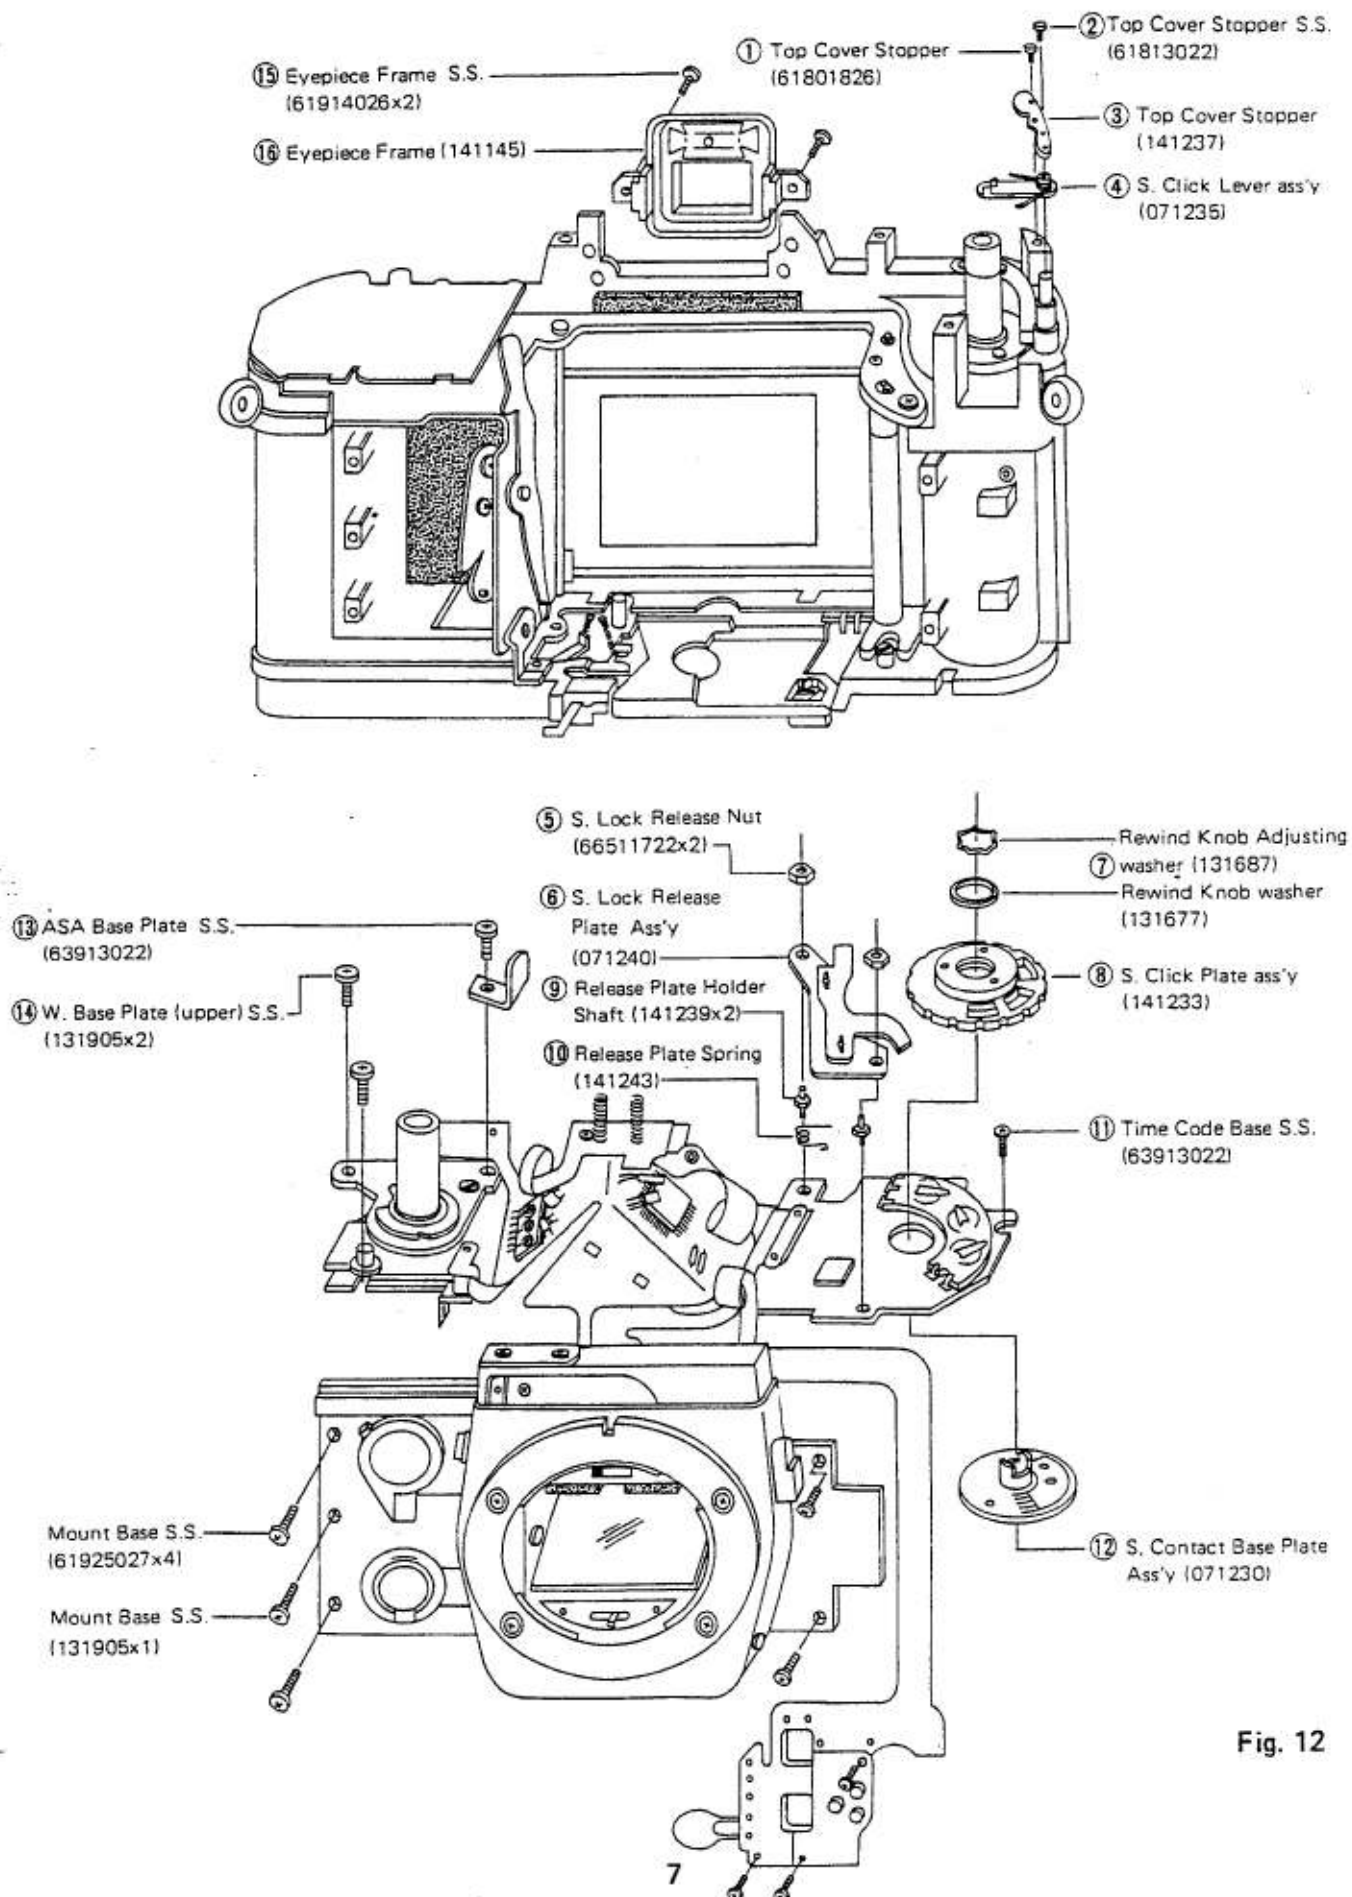

Fig. 12
- c) Remove the respective parts ① ~ ⑩ shown in (fig. 12) on page 7 on numerical order.
- Remove Mount Base S.S.(61925027x4, 131905x1) and Mount Base Ass'y gently. (Mount Base Ass'y will be removed together with ASA Base Plate Ass'y, FPC and Mirror Box Ass'y.) (fig. 12)